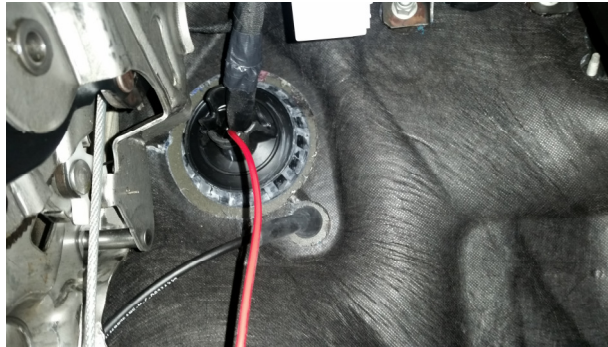

Figure 3
3. Insert the red power cable through the grommet pictured in **Figure 3** located under the dash on the Driver's side. Leave the rest of the wiring harness by foot pedals in cab of truck for now. Bring red power cable up into engine bay.